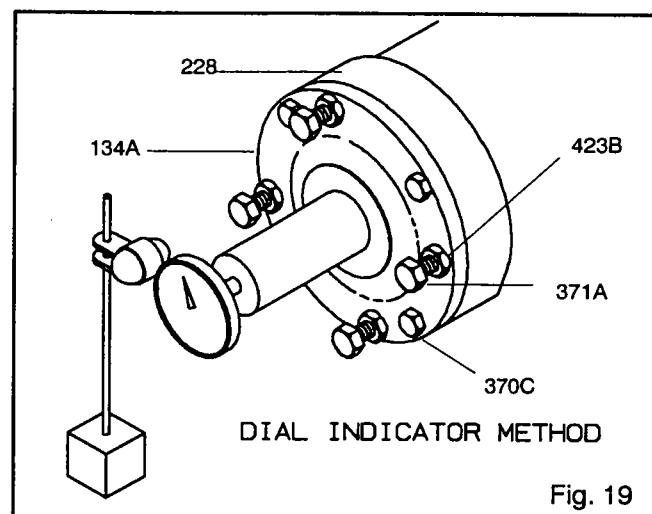

Fig. 19
3. Set indicator so that button contacts either the shaft end or against face of coupling (Fig. 19).
5. Tighten each locking bolt (370C) evenly, drawing the bearing housing (134A) towards the bearing frame (228) until impeller contacts the casing. Turn the shaft to ensure contact is made.